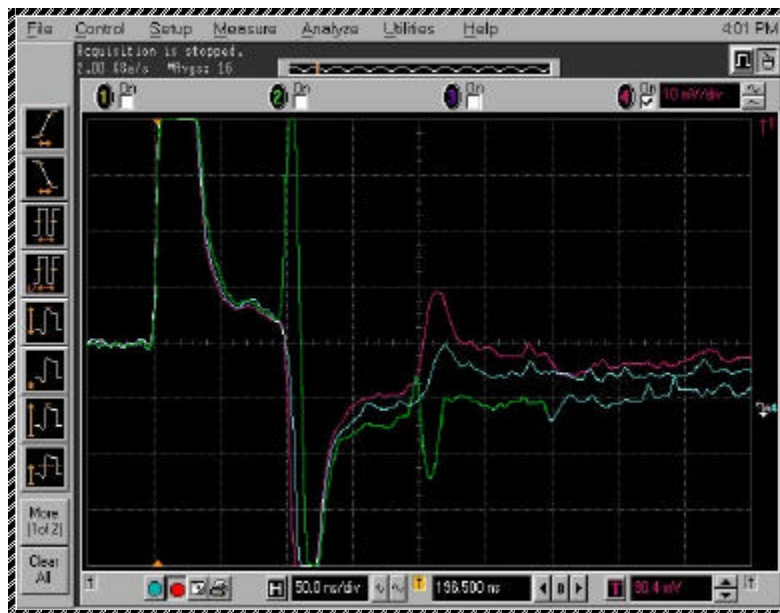

Figure 2
3. The Picture should look like the blue curve on Figure 2 with a differential probe. Notice that the reflections stay always below zero.
4. All signals should look alike and resemble the blue curve on the Figure 2. You should never see reflected signal above zero. If this is not the case, mark the failed channel and mark the whole board as bad.